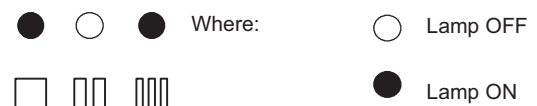

Figure 10.19
- Press the reset button D repeatedly (4 times) until the lamps F give the indication as in Figure 10.19 (ignition pressure adjustment mode).